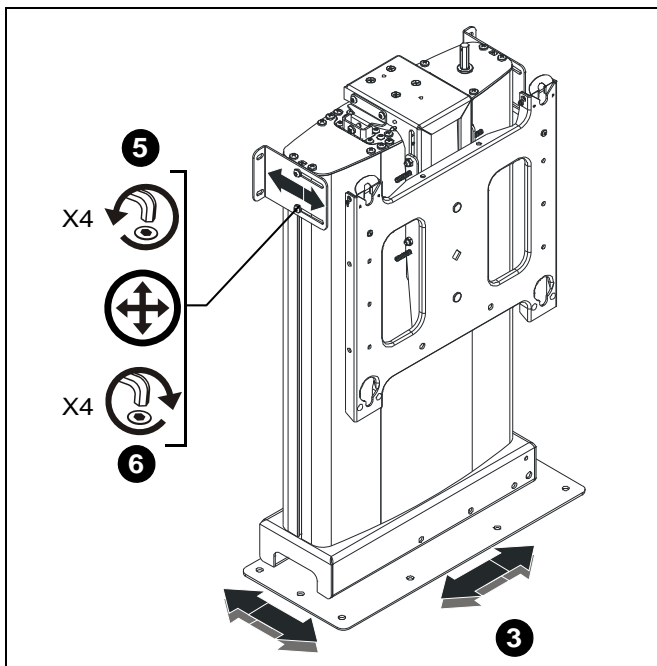

Figure 17
4. Position mount until base is properly positioned and side mounting brackets are in line with vertical supports. (See figure 17)